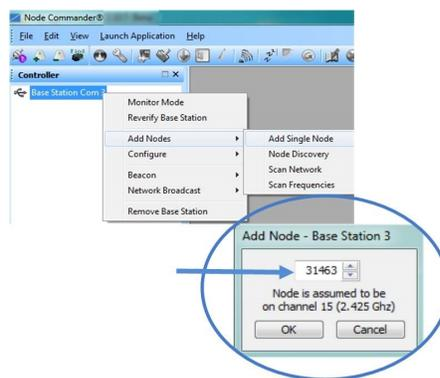

Figure 8 - Adding a Node by Address
1. To add a node by address, right-click on the gateway name in the Controller window, and select Add Node > Add Single Node (*Figure 8 - Adding a Node by Address*).